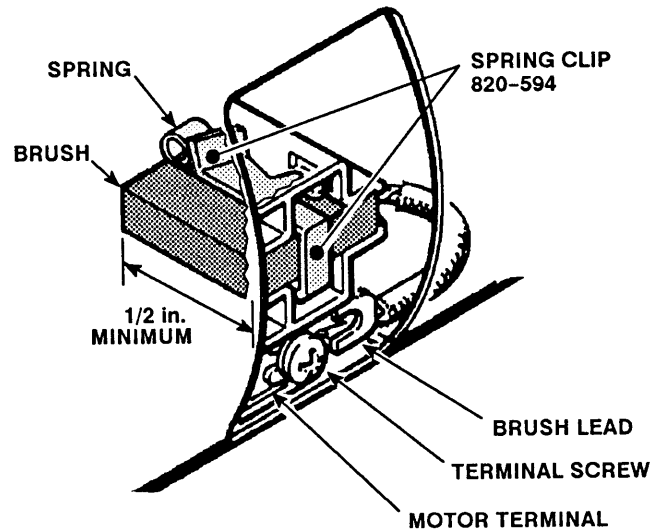

Fig 9
NOTE: Replace the brushes when they have worn to less than 1/2 in. See Fig 9. The brushes wear differently on each side of the motor, so check them both and replace both at the same time. Brush Repair Kit 820-536 and spring clip 820-594 are available.
3. Loosen the terminal screw. Pull the brush lead away, leaving the motor lead in place. Remove the brush and spring. See Fig 9.